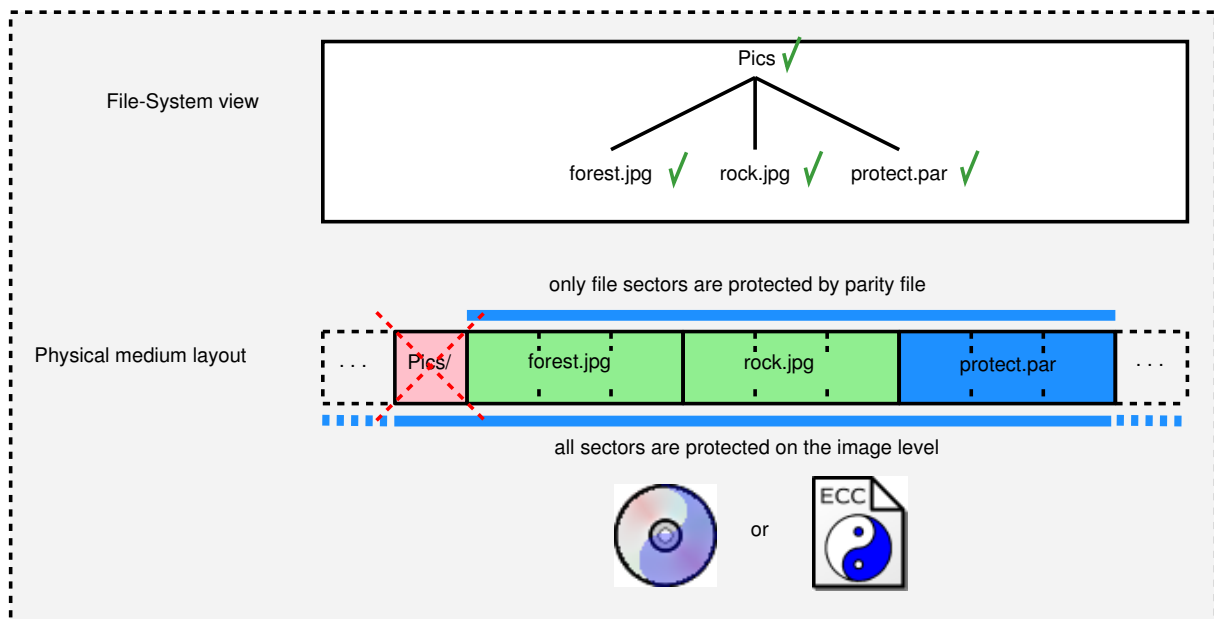

Figure 67: Image level protection
**Advantages of image level recovery on optical media.** dvd disaster applies an image level approach to error recovery. The medium is read and processed as an ISO image. The ISO image contains a sequence of all sectors found on the medium, including those which are meta data for the file system. Since the dvd disaster error correction data protects all sectors in the ISO image, file contents as well as meta data sectors (e.g. directories) can be restored. See fig. 67 for the different range of protection.